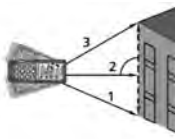

Fig. 10: Misura Indiretta a 3 punti – Modo 1
3. Position the instrument in the lowest point (1) of measurement (see Fig. 10) and press the  key or the side **MEAS** key. The result appears on the first partial display. The symbol “◀” appears on the display with side “2” flashing
4. Position the instrument as horizontally as possible (2) and press the  key or the side **MEAS** key to measure. The result appears on the second partial display. The symbol “◀” appears on the display with side “3” flashing
5. Position the instrument in the highest point (3) of measurement (see Fig. 10) and press the  key or the side **MEAS** key to measure. The result appears on the second partial display